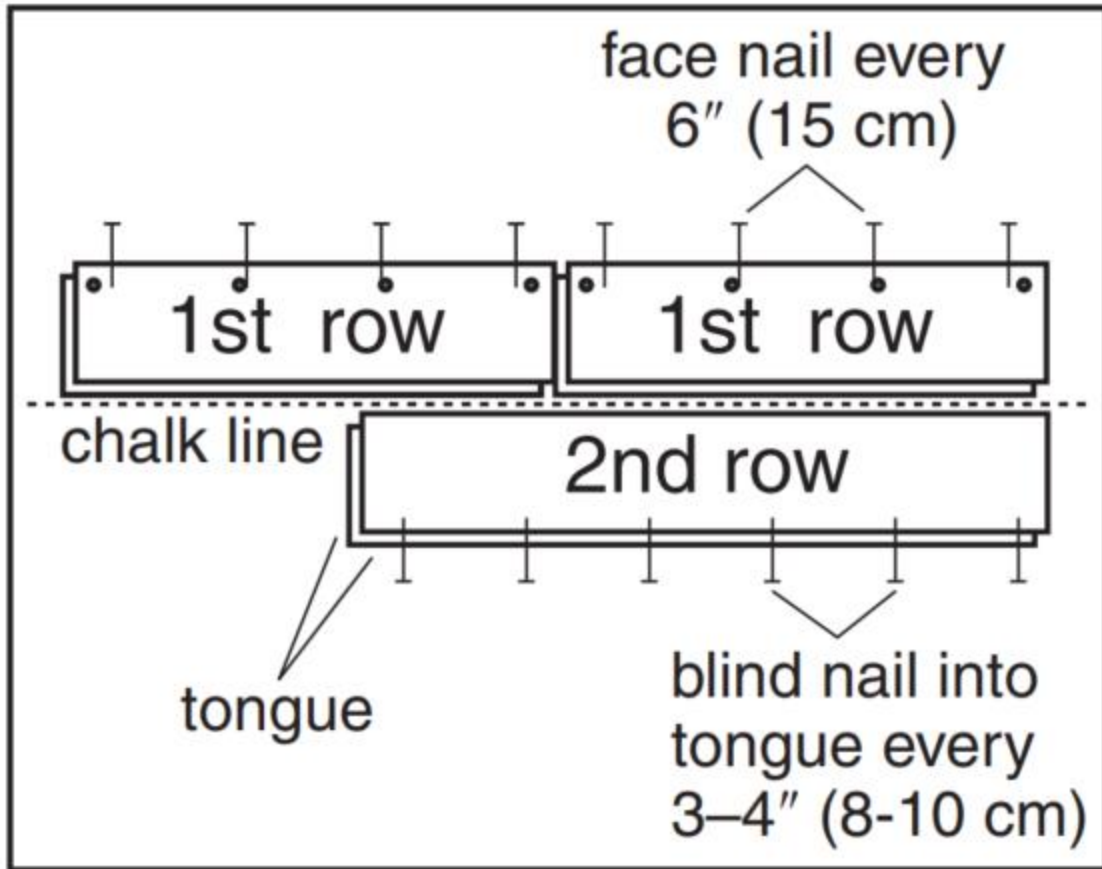

Figure 6
- Use the longest, straightest boards available for the first two rows. For random and alternate width products, use the widest plank for the first row. Align tongue of first row on chalk line. The groove should be facing the starting wall. Pre-drill $\frac{1}{2}$ " (13 mm) from back (groove) edge, 1"-2" (2.5-5 cm) from each end, and at 6" (15 cm) intervals when possible (Figure 6). Fasten using 4 or 6d finishing nails or 1" (2.5 cm) pneumatic finish nails/brads. Countersink the nails.